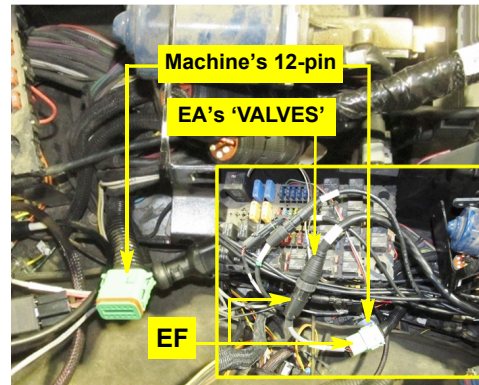

Figure 3b: Adapter cable to machine's harness
- b. In the rear cabling compartment, locate the machine's unconnected 12-pin connector (Figure 3b near the wiper motor). Install adapter cable **EF** between that connector and **EA**'s branch cable labeled 'VALVES' (Figure 3b).
- Connect **ED**'s branch cables to **EA**'s branch cables labeled 'RMT_ENGAGE', 'EXT_POWER' (Figure 3b inset) and your terminal's power cable.